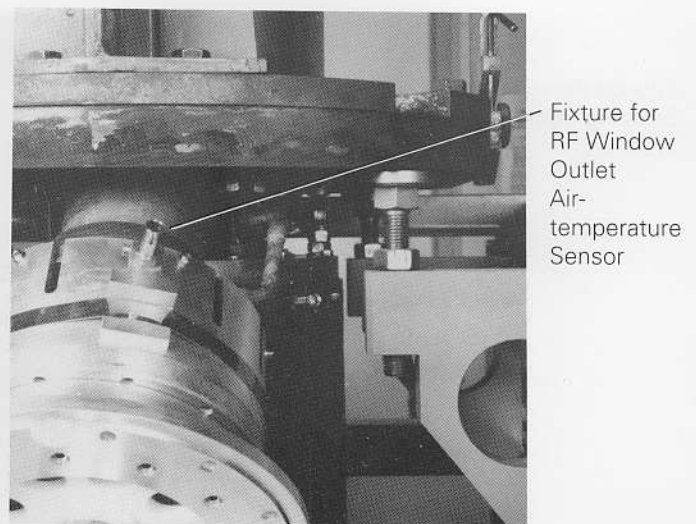

Fig. 24. RF Window Outlet Air Temperature Sensor (customer-connection)
- (g) If required (customer-connection), fit the RF window air temperature sensor fixture (Fig. 24)